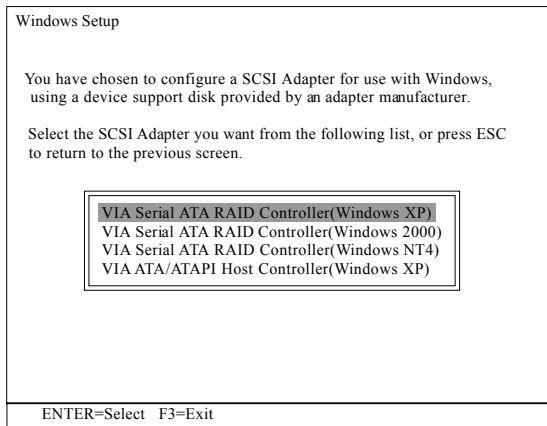

Figure 25
3. When the screen as shown in Figure 25 appears, select the correct driver for your system by using the arrow keys and press <Enter>